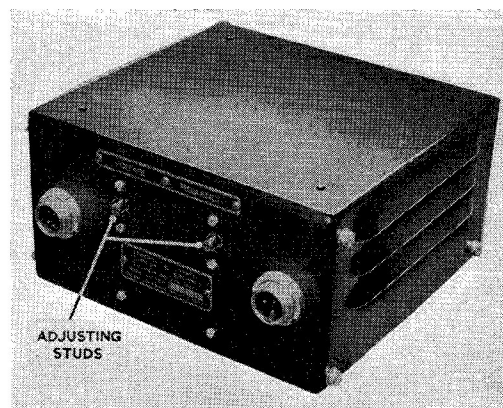

Fig. 1. Control panel, Type 34
1. The control panel, Type 34 (*fig. 1*) controls the Type 102A inverter described in Book 3, Sect. 16 of this publication, and is designed for installation remote from the inverter.